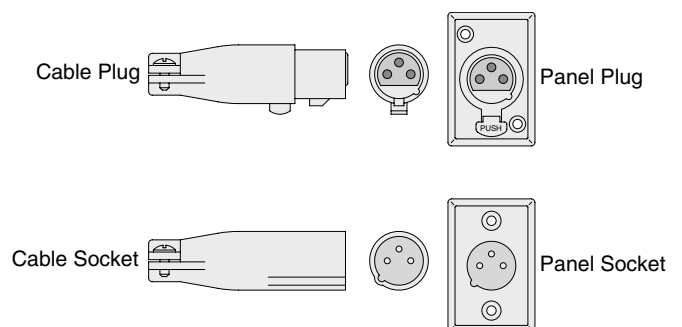

Figure 9-42 XLR Phone Connectors
The XLR connector, as shown in Figure 9-42, is a particularly versatile audio connector. It is a three-pin design with a fully shielded housing. The plug incorporates an automatic locking mechanism which must be manually released to disconnect the connector. Male and female versions are available for panel mount or cable assemblies. These connectors are an excellent choice for public address (PA) equipment as they are very durable and stand up well to years of service. They are appropriate for low-level signals (microphone), intermediate signals (preamp outputs, tone controls, and so forth), and low-power amplifier outputs.